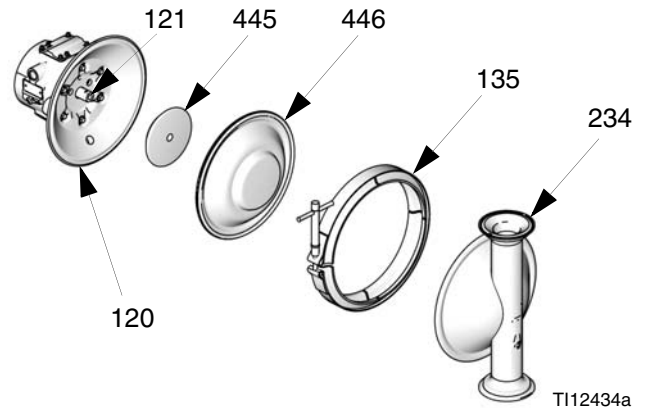

FIG. 21
3. Remove the clamps (135) holding the fluid covers (234) to the air covers (120). Pull the fluid covers (234) off the pump. See FIG. 21.
5. Diaphragms are assembled handtight. To loosen, grip both diaphragms securely around the outer edge and rotate counterclockwise. One diaphragm assembly will come free and the other will remain attached to the shaft. Remove the freed diaphragm (446) and air side plate (445).
6. Pull the opposite diaphragm assembly and shaft (121) out of the center housing (101). Hold the shaft flats with a 19 mm open end wrench and remove the diaphragm and air side plate from the shaft.
7. Inspect the diaphragm shaft (121) for wear or scratches. If it is damaged, inspect the bearings (117) in place. If the bearings are damaged, refer to page 27.
8. Reach into the center housing (101) with an o-ring pick and hook the u-cup packings (110), then pull them out of the housing. This can be done with the bearings (117) in place.